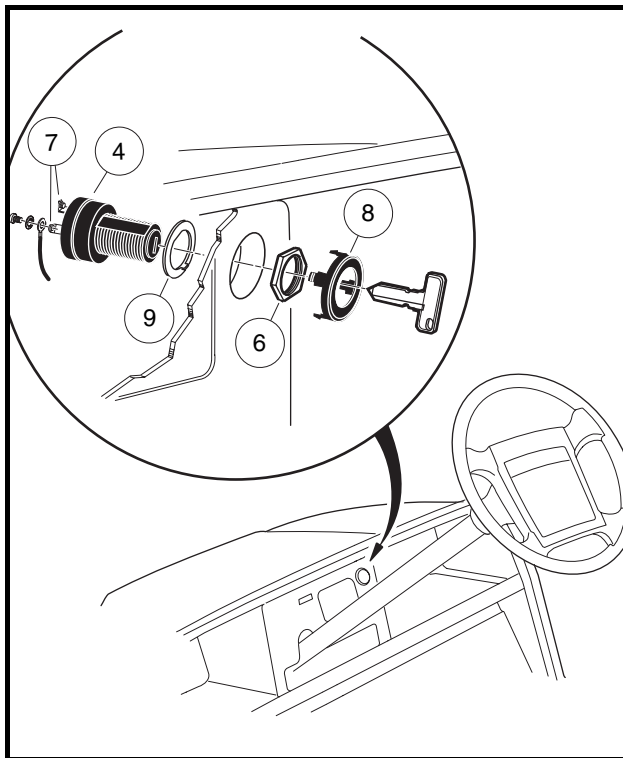

Figure 13-2 Key Switch
**NOTE:** *Bending the top right corner of the center dash inward during removal will prevent the terminals (7) on the back of the key switch from touching the metal frame around the dash (Figure 13-2, Page 13-2).*
5. From the back of the dash panel, push down on the retaining tabs surrounding the key switch (4) and remove the key switch cap (8). Hold the key switch and remove the switch retaining nut (6) from the outside of the dash panel (Figure 13-2, Page 13-2).
1. Position the key switch and flat washer (9) in the center dash, then install and tighten the switch retaining nut (6) to 40 in-lb (4.5 N·m). Install key switch cap (8) in center dash (Figure 13-2, Page 13-2).
3. Install center dash by reversing removal procedure. Make sure key switch terminals (7) do not touch frame and that the center dash panel is properly seated and snapped into place (Figure 13-2, Page 13-2).